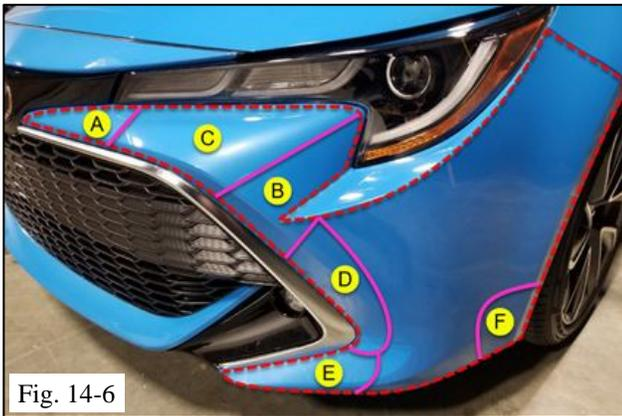

Fig. 14-6
- (f) Apply your alcohol solution underneath the outer edge. Stretch the film out to align the within the proper tolerance. Hold the tension of the stretch with one hand while using the other to tack down the material (Fig. 14-6).